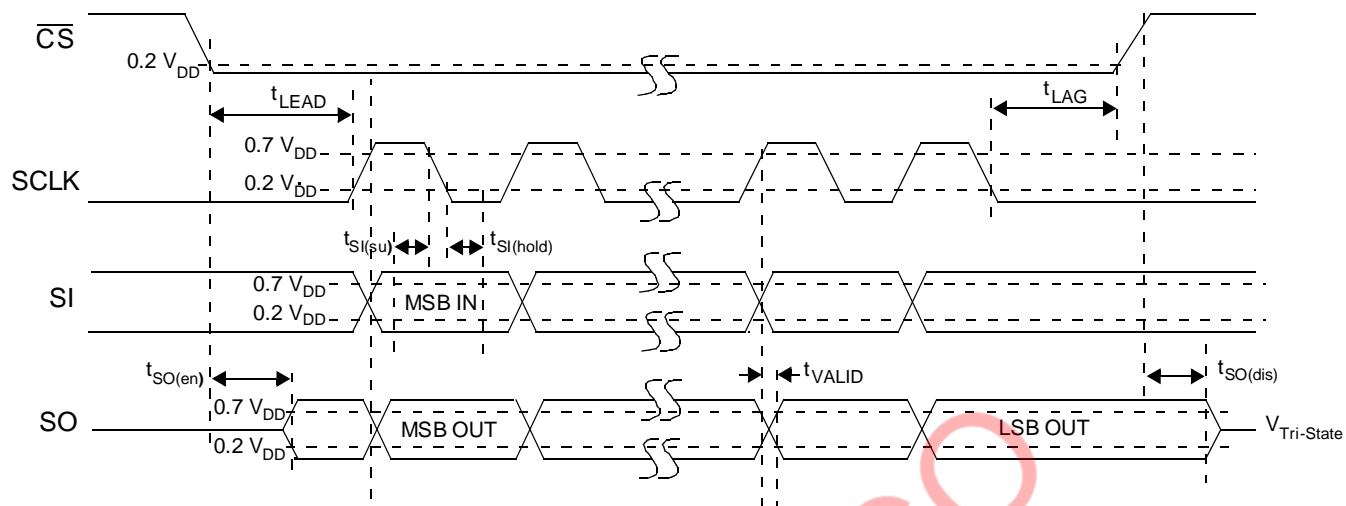

Figure 4. SPI Timing Characteristics
The Serial Input (SI) pin is used to enter one of seven serial instructions into the 33996. SI SPI bits are latched into the Input Shift register on each falling edge of SCLK. The Shift register is full after 24 bits of information are entered. The 33996 operates on the command word on the rising edge of  $\overline{\text{CS}}$ . To preserve data integrity, exercise care not to transition SI as SCLK transitions from high to low state (see Figure 4, page 8).